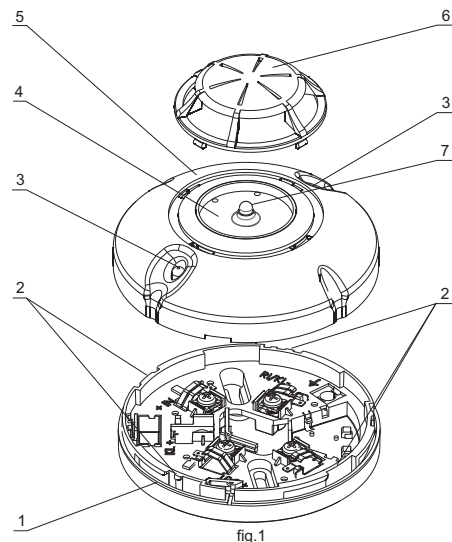
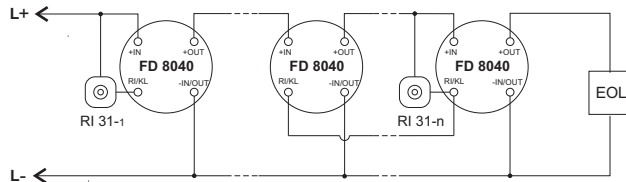

fig.1
fig.2
The fire detector consists of (fig.1) printed board, mounted in a plastic body with optical filter and bottom side. The flat point pivot screw (optional) prevents the fire detector of unauthorized removal. A 2 mm tip screwdriver is required for locking and unlocking. The two red LEDs of the fire detector (fig.1) are indicating fire condition, providing 360 angle visibility. It is recommended that the fire detectors are mounted in premises, where a possible development of fire condition is supplemented by flame. Avoid mounting in premises with flickering lights. The fire detectors shall be mounted on the ceiling in a way, that do not allow exposure to direct sunlight.
Fix the base to the ceiling of the protected premise using fixing screws and wood screws. Complete the electrical wiring as shown on (fig.2), and according to the rational design of the premise. Fix the fire detector to the base by means of bayonet joint (fig1.pos1). When fixing, make sure that the bench mark of the detector stands about 20 mm below the respective bench mark of the base so that the plastic channels fully coincide (fig1.pos2), then rotate clockwise to complete location (fig3.pos1). The bench marks should fully coincide (fig3.pos2).
- * Remove the detector from the base, than remove the chamber from the detector (fig1.pos6.) You can use for a cover a cleaning materials, washing and drying. The optical chamber and the photodiode you have to clean with clean cloth.